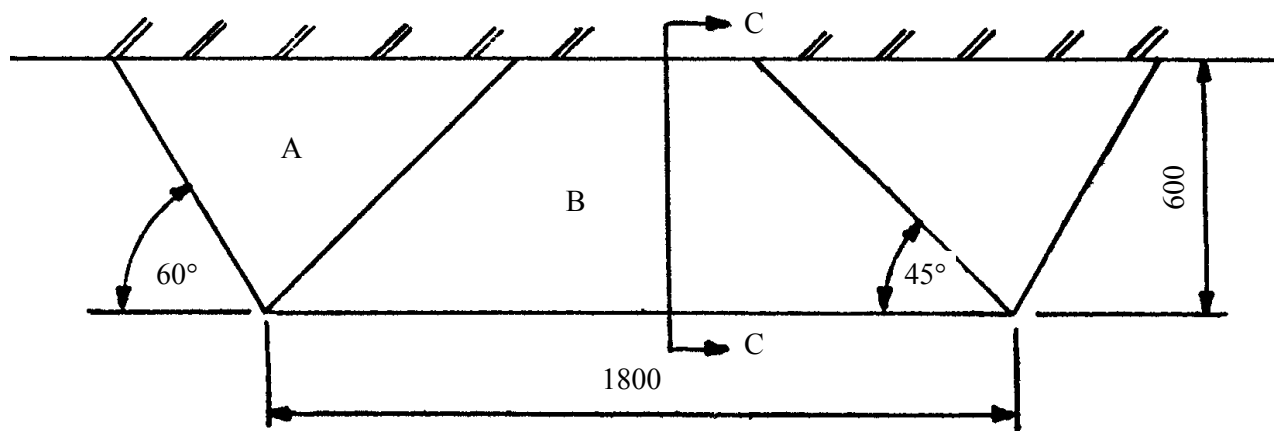

Fig. 3
8. Fig. 3 represents the roof plan of a splayed bay window covered with plywood. The roof surfaces are inclined at an angle of 45 degrees. Determine, to a scale of 1:20